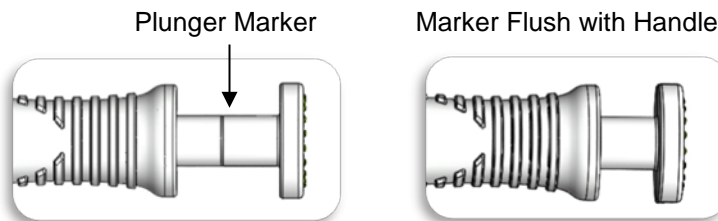

Figure 6: Delivery Device plunger marker position
- Advance the plunger to move the Implant into the delivery cannula until the marker on the plunger is flush with the back of the device handle. This positions the Implant at the tip of the cannula in the pre-deployment position. Proper plunger marker location is shown in **Figure 6** below.